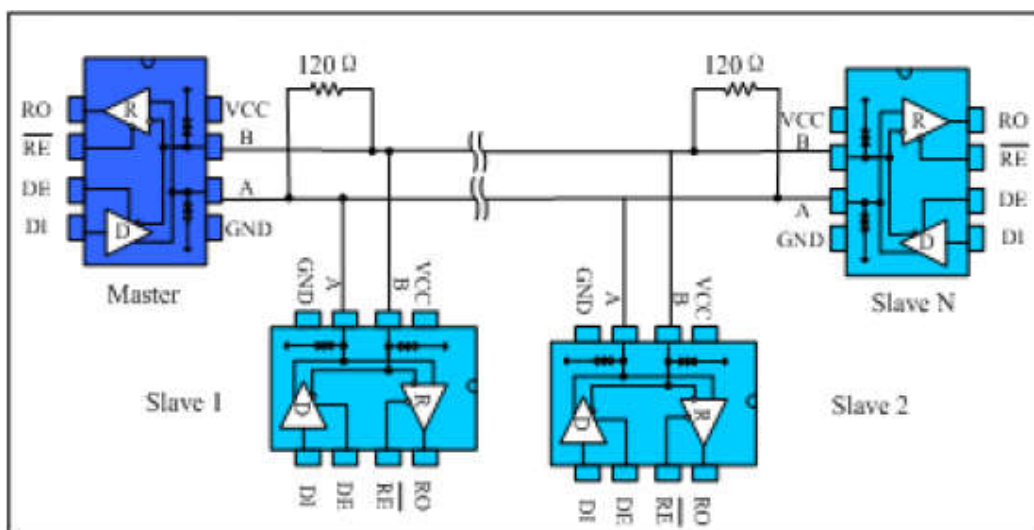

Fig. 9 Bus-type RS485 half-duplex communication network
4.1 Bus networking: The MAX3485ESA RS485 transceiver is designed for bidirectional data communication on multi-point bus transmission lines. Figure 9 shows a typical network application circuit. These devices can also be used as linear repeaters with cables longer than 4000 feet. In order to reduce reflections, terminal matching should be done at both ends of the transmission line with their characteristic impedance, and the length of the branch wires other than the main line should be as short as possible.